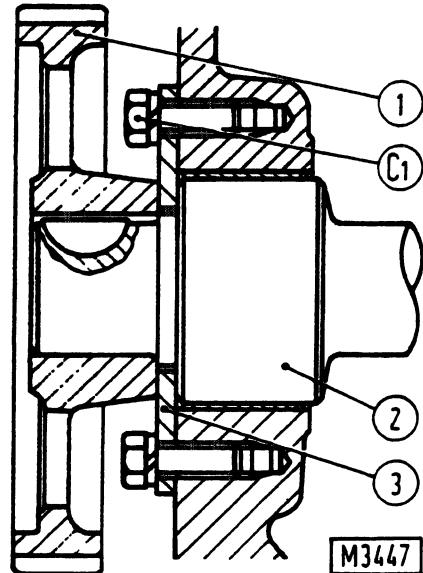
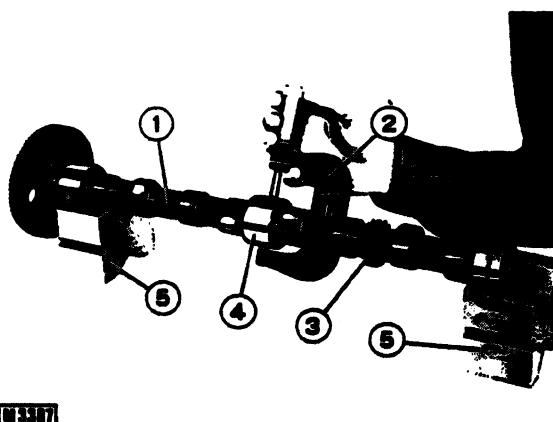

Fig. 18 - Section of camshaft drive.
Fig. 17 - Checking camshaft journal diameter.
- for camshaft drive gear (Fig. 18) use universal puller yoke. To install, heat gear ( $180^\circ\text{C} - 356^\circ\text{F}$ ) and press it into camshaft after installing the key.
The camshaft is located in the engine block, supported by three babbitt metal-lined steel bushings pressed into their seats in the block. The camshaft (1, Fig. 17) is held in place at the front by a thrust collar (3, Fig. 18) where a gear (1), hot pressed and keyed, drives it.
- remove timing gear cover, remove screws (C1, Fig. 18) securing the thrust plate to the timing housing and withdraw camshaft with gear.